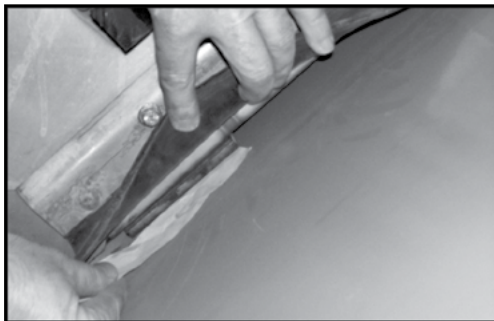

Figure 10A
6. Figures 10A-10B - There must be contact between front pads and main bin. Check for contact by trying to slide paper between pads and main bin. If no contact, adjust insert.